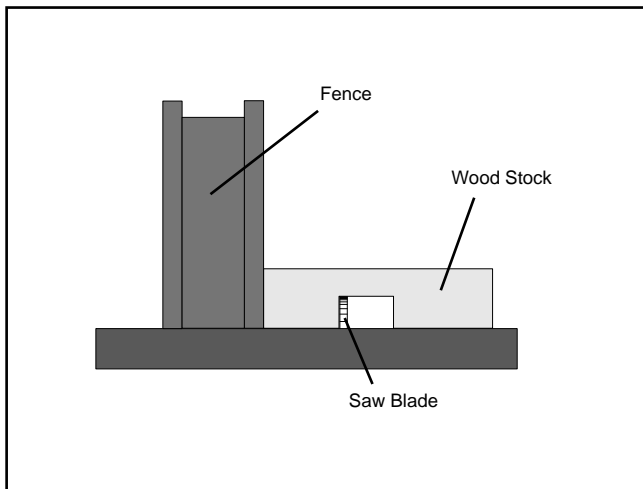

Figure 39. Single-blade dado cut.
3. If the dado runs the length of the material, adjust the fence so the blade is aligned with the inside of your dado channel as shown in **Figure 39**.